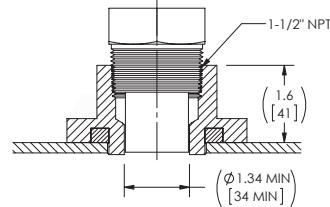

Fig. 2
Any orientation on a vertical run of pipe in either a wet or dry system is considered acceptable. Refer to installation instructions and Fig. 2 for both the M7700 inline pipe and M7800 mechanical tee.
3. Apply a proper sealant to the plug's threads and install it into the inline pipe's plug port (Fig. 2).
6. Apply a proper sealant to the plug's threads and install it into the mechanical tee's plug port (Fig. 2).